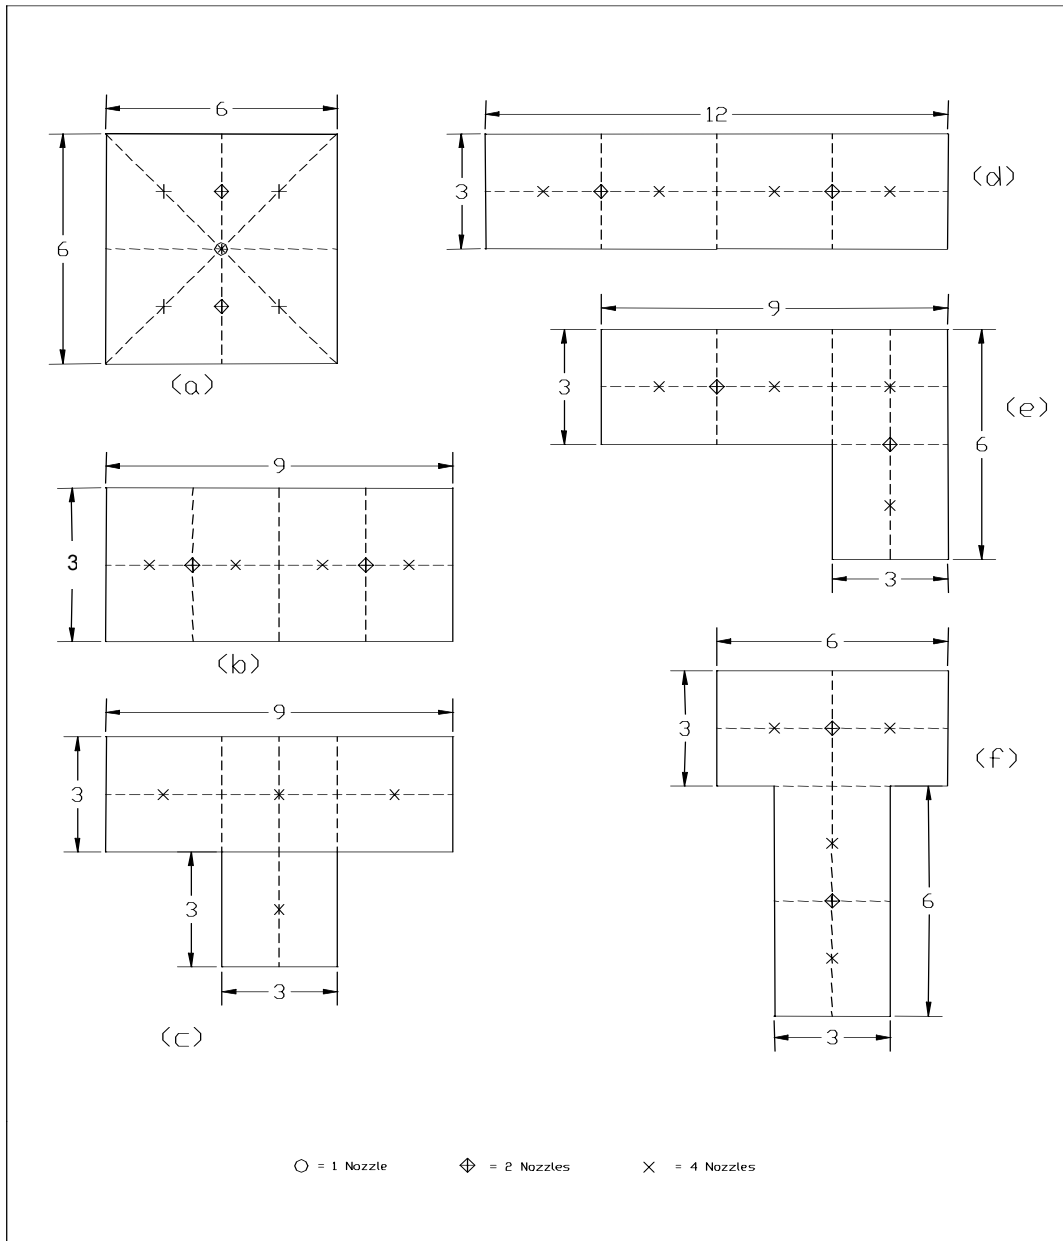

FIGURE 4-1
- b. Determine the height, length, and width of the enclosure. Calculate the volume. All of these parameters must be within the dimensional limits specified in this manual. (See Section 4.3, Table 4-1, and Figure 4-1).
- g. Determine the cylinder size required, based on the hazard volume limitations, enclosure size, and quantity of FM-200 agent required. **Remember, as cautioned in Section 3.1 of this manual, only one (1) extinguisher unit can be used to protect one (1) hazard.**
- (a) The maximum length and width dimensions can vary from those shown in Table 4-1, provided that the maximum area coverage does not exceed 36 Ft². See Figure 4-1 for typical examples of configurations that meet the maximum area coverage limitations.